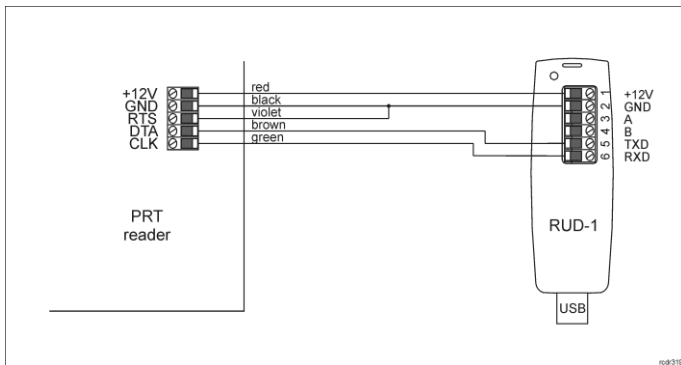

Fig. 1 Connection of PRTxxEM reader to RUD-1 interface
1. Connect the reader to RUD-1 interface (fig. 1) and connect the RUD-1 to computer's USB port.
The update requires connection of reader to computer with RUD-1 interface (fig. 1) and starting RogerISP software. The latest firmware file is available at www.roger.pl.